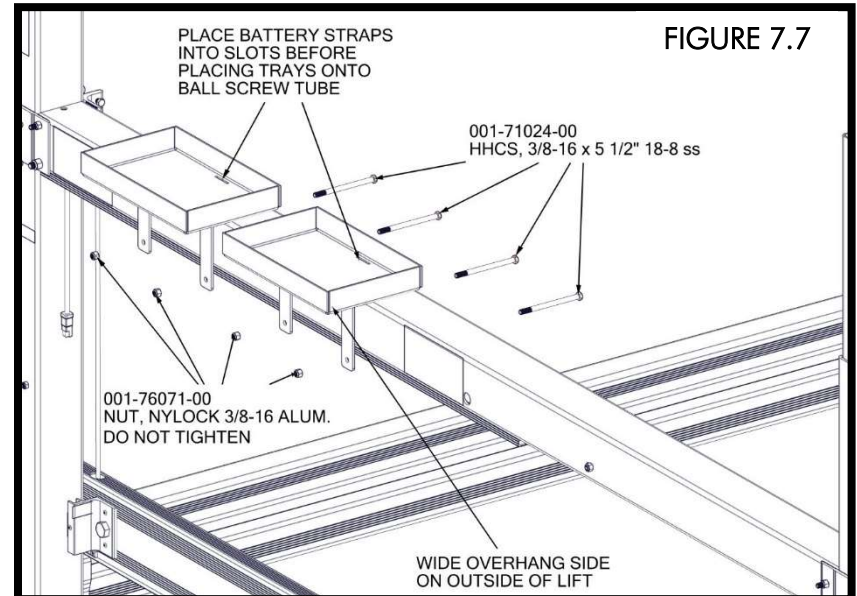

FIGURE 7.7
- DC ONLY: SLIDE BATTERY TRAYS OVER THE BALL SCREW TUBE WITH THE WIDE OVERHANG SIDE OF THE TRAY TO THE OUTSIDE OF THE LIFT TO PROVIDE MORE CLEARANCE. PLACE FIRST BATTERY TRAY 8 INCHES FROM CORNER POST AND SECOND BATTERY TRAY 3 INCHES FROM FIRST TRAY (SEE VSD DRIVE INSTRUCTIONS). FASTEN WITH (4) 3/8" x 5 1/2" BOLTS WITH (4) 3/8" NYLOCK NUTS (FIGURE 7.7). TORQUE COMPLETELY ONCE WIRING IS DONE AFTER WIRING IS COMPLETE.